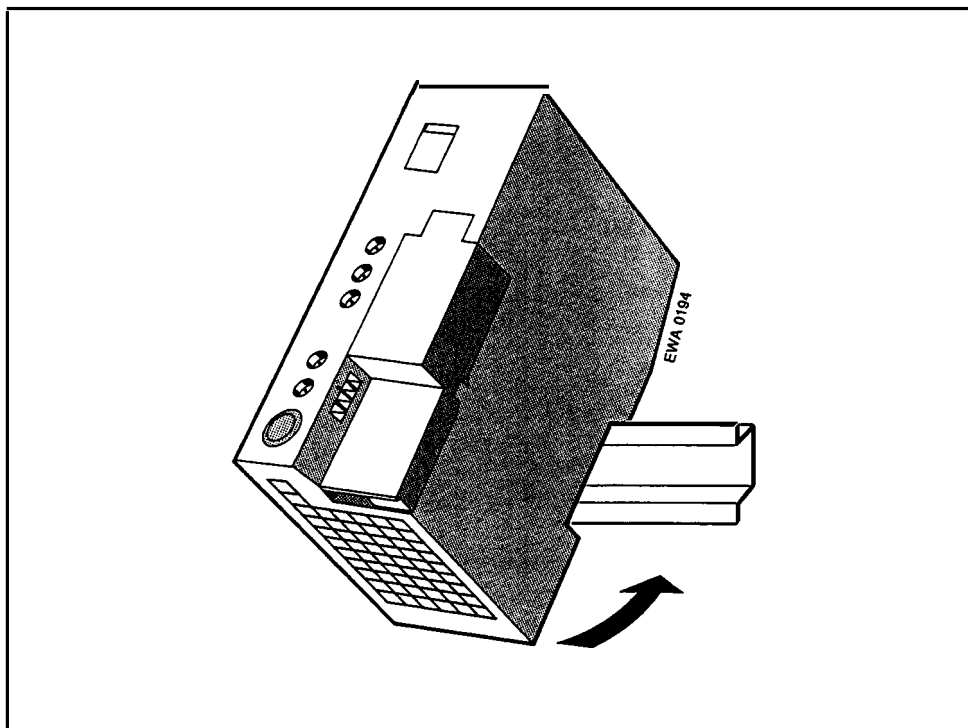

Figure 3-1 Mounting the **PS** 931 Power Supply Module
- Swing it down in the direction of the arrow (+ Figure 3-1).
- Swing it down in the direction of the arrow (Figure 3-1).